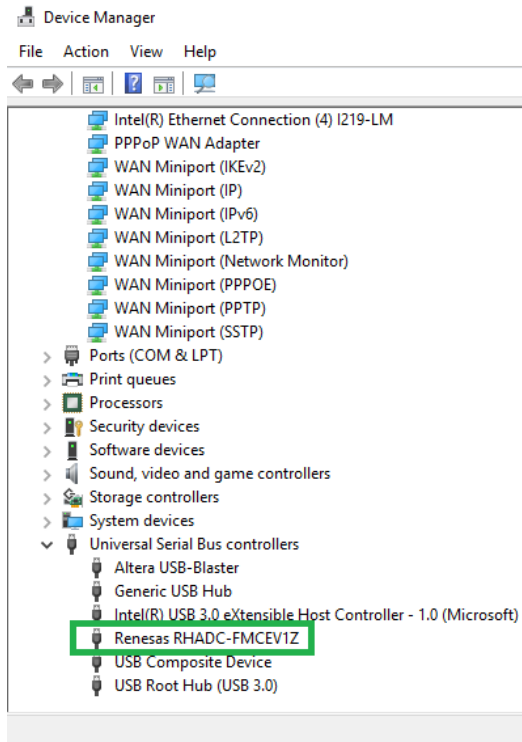

Figure 5. USB Device Driver in Device Manager
The digitized data from the ADC is passed to the RHADC-FMCEV1Z using the VITA 57.1 FMC mezzanine connector. The iRADAnalyzer application software controls the capture of data and provides FFT performance data of the ADC. Figure 5 shows the GUI interface of the application software.
1. Connect the supplied CUI 5V switching power supply to the RHADC-FMCEV1Z then connect a USB cable between the PC and the RHADC-FMCEV1Z. The board should be listed in Device Manager on the PC as Renesas RHADC-FMCEV1Z under Universal Serial Bus Controllers as shown in Figure 5.